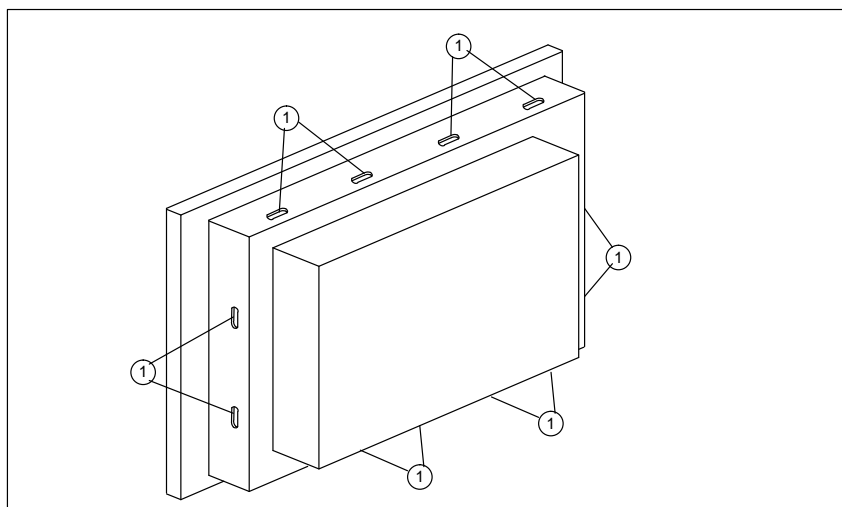

Figure 2-1 Positions for the screw clamps
3. Securely attach the OP to the front panel using the six screw clamps ① supplied. Figure 2-1 shows the positions for the screw clamps.